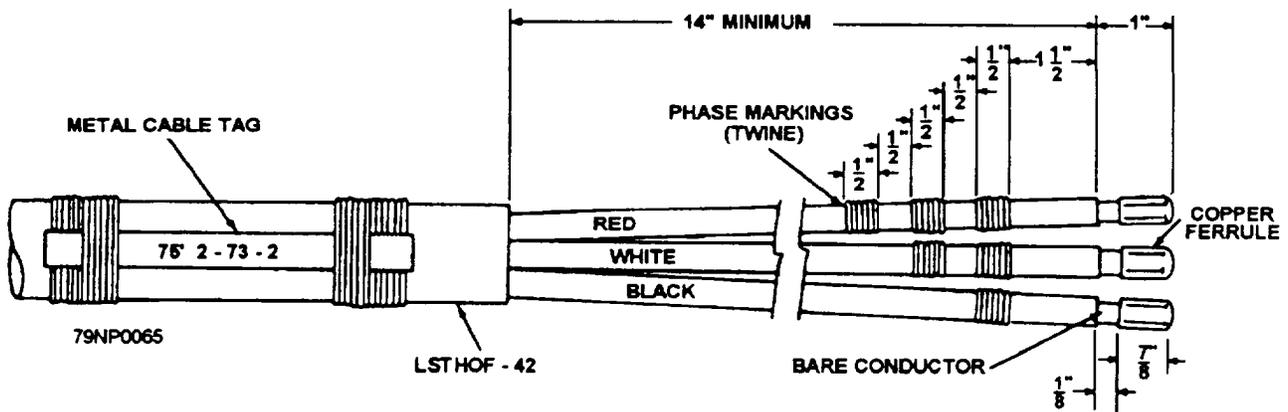

Figure 2-18.—Casualty power cable—old method of serving.
On older ships, the portable cable ends are marked to identify the A, B, and C phases visually or by touch when illumination is insufficient for visual identification. Phase A is color-coded black and has one serving on the conductor end; phase B is color-coded white and has two servings; and phase C is red with three servings (fig. 2-18).
Step 1	Cut off the protruding ends and prepare new terminals as shown in figure 2-18. To avoid inserting a bare conductor into bulkhead terminals, do not strip more than 1 inch of the insulation from the conductor.
Step 4	<p>Use either of the following methods to identify the phase by touch and color:</p> <ul style="list-style-type: none"> • Old method (fig. 2-18)—Apply close wrappings of cotton twine approximately 3/64 inch in diameter, knot securely, and coat with grade CA varnish: <ul style="list-style-type: none"> Black wire (A phase) 1 wrapping White wire (B phase) 2 wrappings Red wire (C phase) 3 wrappings • New method (fig. 2-20)—Instead of cotton twine, O-rings and heat-shrinkable colored tubing are used. The number of O-rings correspond to the number of wrappings in this method. If colored tubing is not available, transparent tubing may be used: <ul style="list-style-type: none"> Black wire (A phase) 1 O-ring, black tubing White wire (B phase) 2 O-ring, white tubing Red wire (C phase) 3 O-ring, red tubing